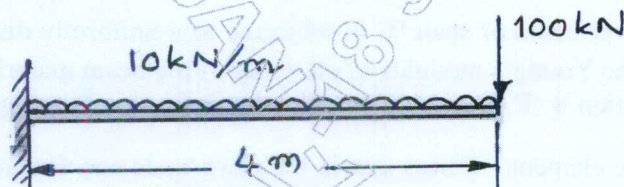

Fig.Q7(b)
b. Determine the maximum deflection of the cantilever beam with uniform cross section as shown in Fig.Q7(b), by assuming the beam as a single element. Take  $E = 7 \times 10^9 \text{ N/m}^2$ ,  $I = 4 \times 10^{-4} \text{ m}^4$ .